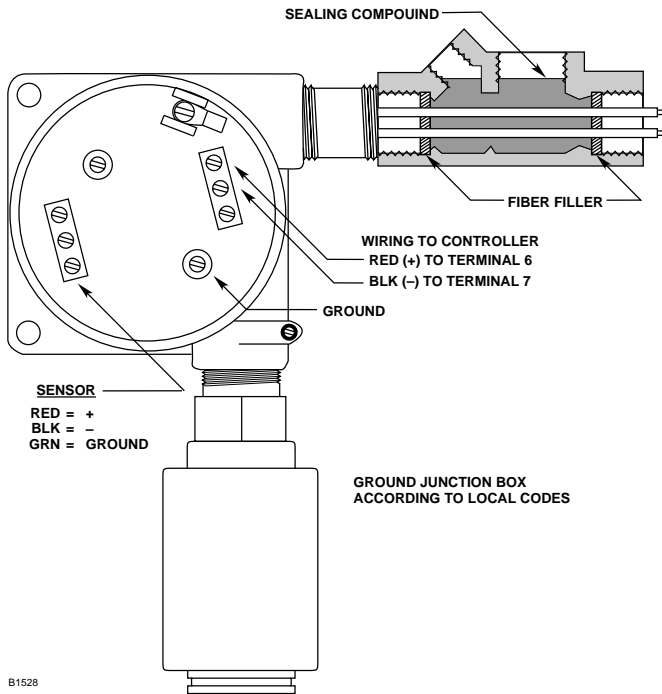

Figure 6—Sensor Wiring
- Connect the sensor wires to the sensor terminal block inside the junction box. (See Figure 6.) Connect the controller wiring to the controller terminal block inside the junction box.